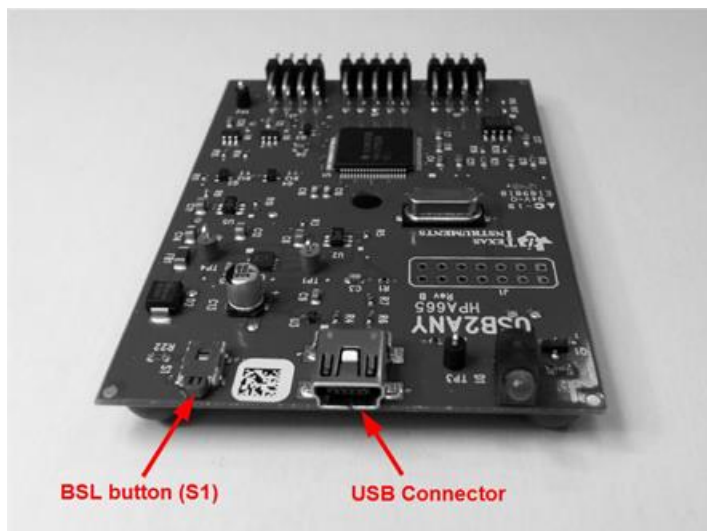
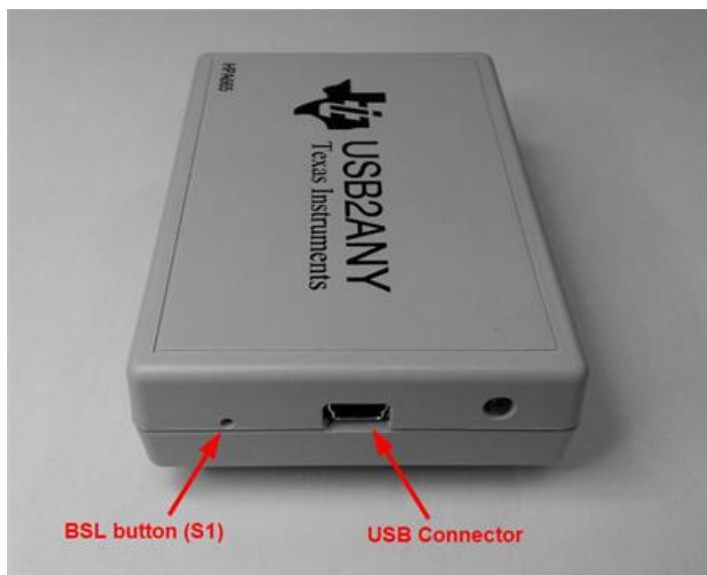

Figure 3-28. USB2ANY Without Enclosure
Figure 3-29. USB2ANY With Enclosure
8. The dialog will display instructions for preparing the USB2ANY for the firmware download. Follow the instructions, referring to Figure 3-28 and Figure 3-29 for locations of the BSL button (S1 switch) and USB connector. If the USB2ANY is in an enclosure, you will need to insert an implement (a paper clip works great) into the small hole to press the button.